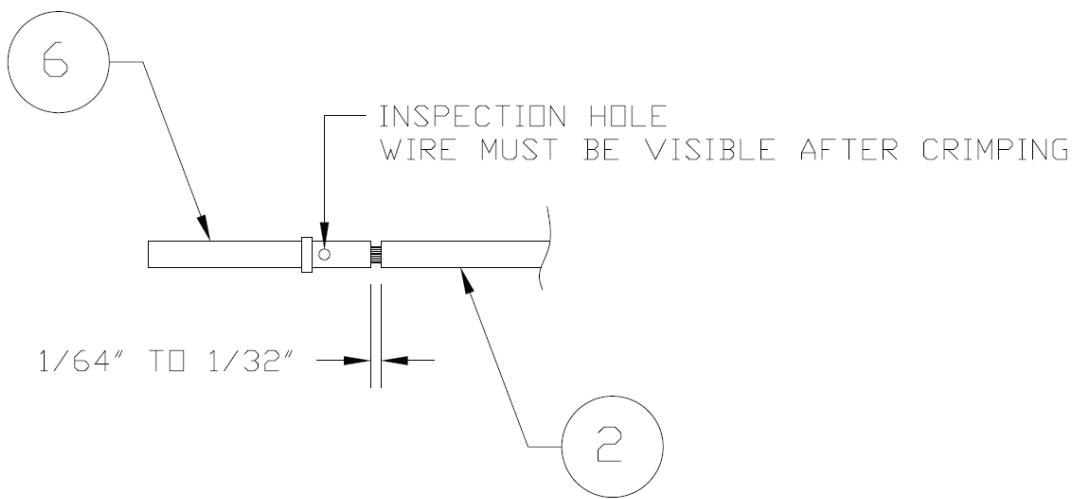

Figure 16-7 Insulation/Contact Clearance
5. Strip back approximately 0.17 inches of insulation from each wire of the shielded cable (item 2) and crimp a contact (item 6) to each conductor. It is the responsibility of the installer to determine the proper length of insulation to be removed. Wire must be visible in the inspection hole after crimping and the insulation must be $1/64" \text{ to } 1/32"$ inches from the end of the contact as shown in Figure 16-7.
2. Strip back approximately 0.17 inches of insulation and crimp a contact (item 6) to the 4" length of 22 AWG insulated wire. It is the responsibility of the installer to determine the proper length of insulation to be removed. Wire must be visible in the inspection hole after crimping and the insulation must be 1/64 – 1/32 inches from the end of the contact as shown in Figure 16-7.